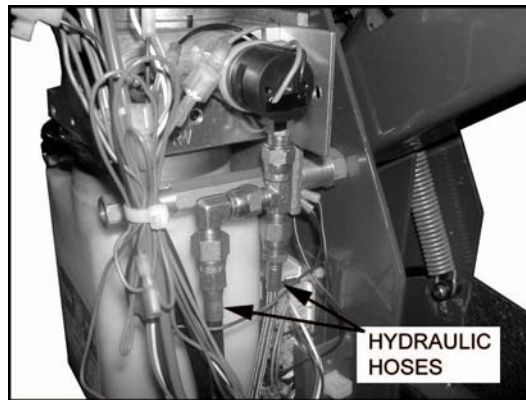

FIGURE 3-44
5. Refer to **Figure 3-44**. Disconnect hydraulic hoses from pump only.